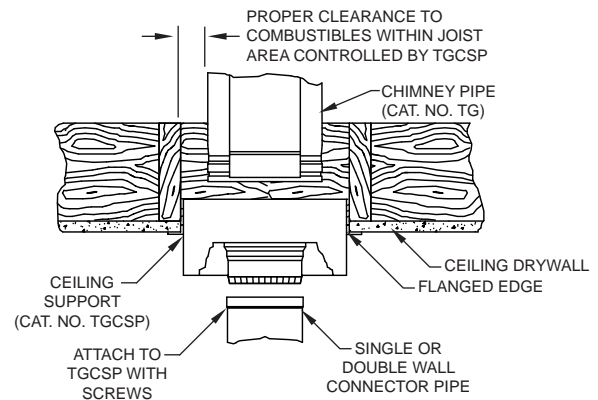
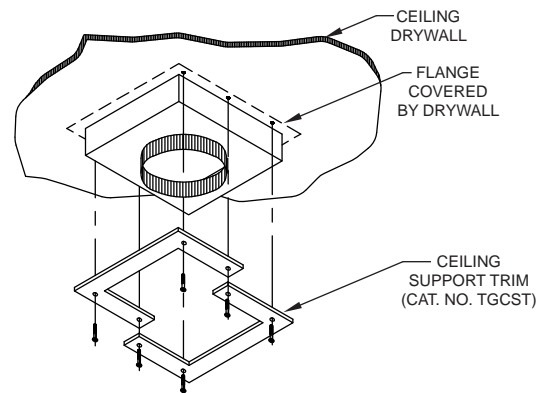

FIG. 2
FIG. 3
3. As shown in **FIG. 2**, insert the Ceiling Support (TGCSP) from below until the flanged edges are firmly against the ceiling drywall. Secure into framing with eight (8) 8-penny nails inserted through the sides of the ceiling support. If the TGCSP was installed during construction and drywall now covers the flanged edges, install Metal-Fab's ceiling support trim kit (TGCST), as shown in **FIG. 3**.
4. Single wall or double wall connector pipe may now be installed between the appliance and the ceiling support. (See **FIG 2**.)